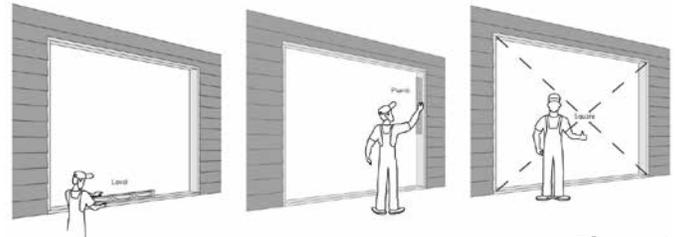

Figure 1
1. Check opening to ensure that it is plumb, level and square prior to installing the mullion and windows. **(Fig. 1)**